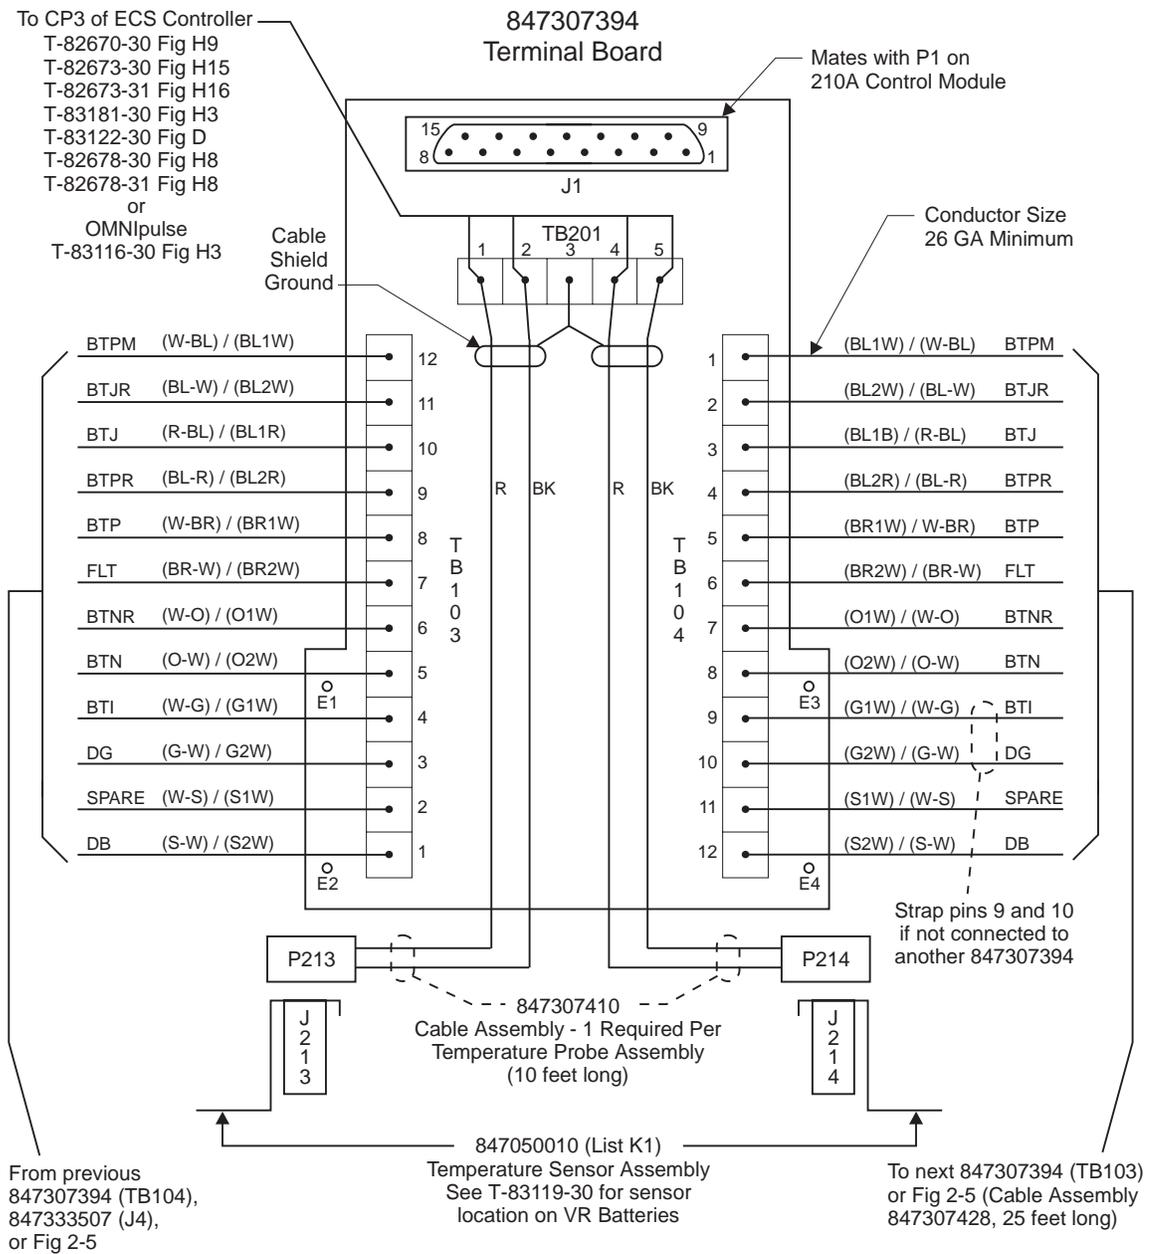
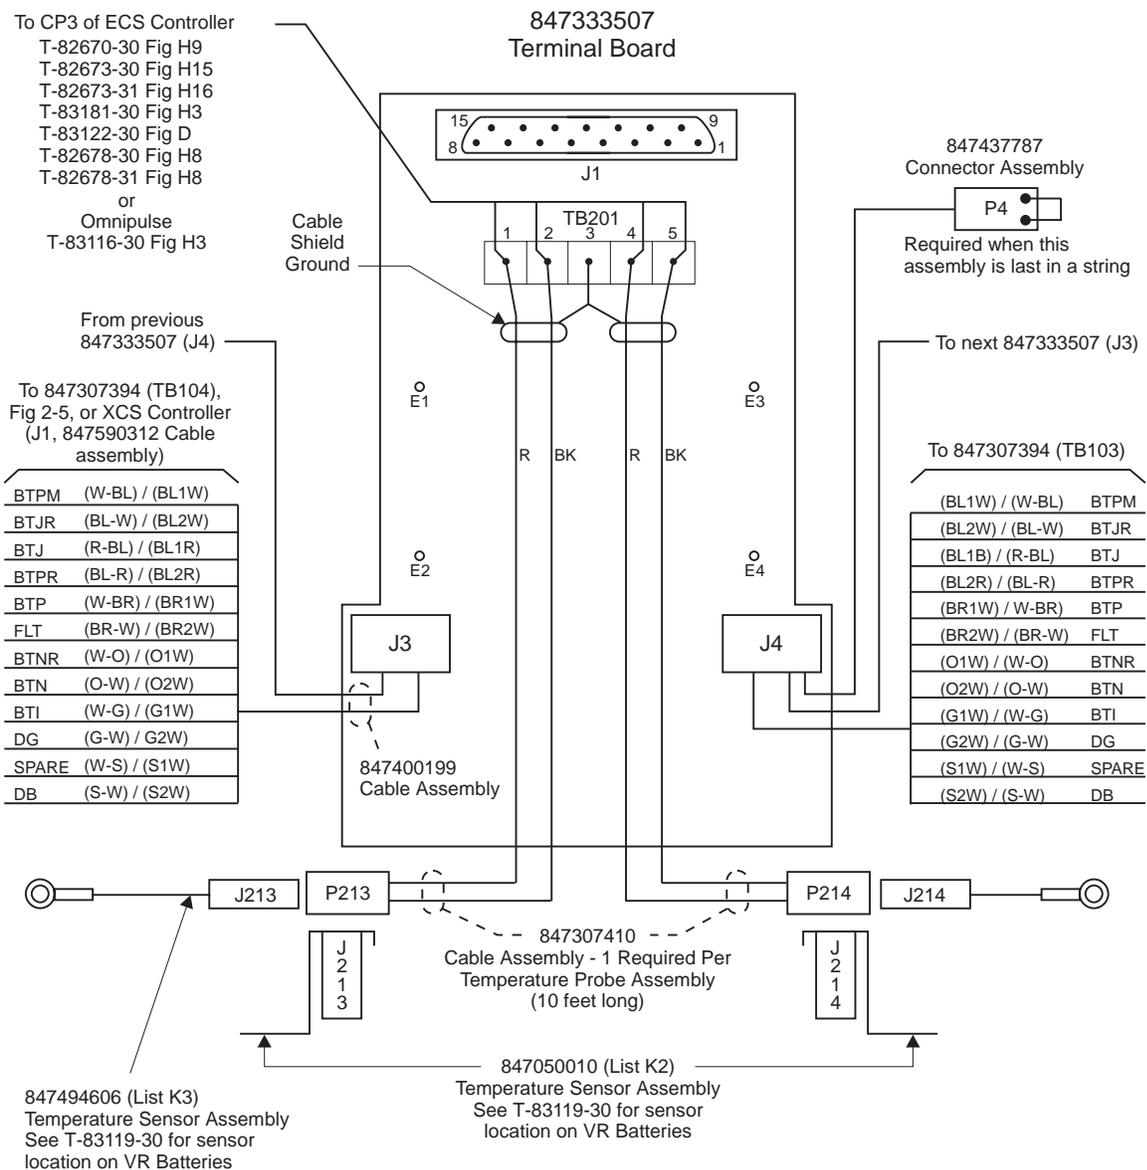

Figure 2-3: Terminal Block Version
Figure 2-4: Connectorized Version
5. Using the cable provided, connect the two thermistors to the base terminal block. Connect the first thermistor to TB201 positions 1 and 2. Connect the second thermistor to TB201 positions 4 and 5 (see Figure 2-3 or Figure 2-4).
Using the 12 conductor cable provided, connect TB104 position 12 of one base to TB103 position 1 of the next closest base (see Figure 2-3). Continue with TB104 position 11 to TB103 position 2, etc. to TB104 position 1 to TB103 position 12. Continue this daisy chain connecting until all the bases are connected together.
Using the cable provided connect J4 of one base to J3 of the next base (see Figure 2-4). Continue this daisy chaining until all the modules are connected together.